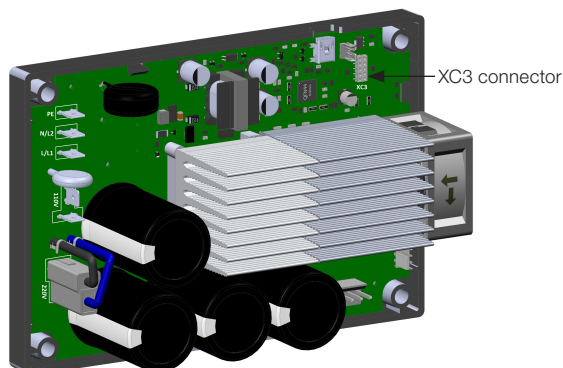

Figure 4.3: Connection of the CRS485 accessory to the XC3 connector of the ADW300
1. With the inverter disconnected from the power supply, connect the CRS485 accessory to the XC3 connector of the ADW300 (See Figure 4.3 on page 17).